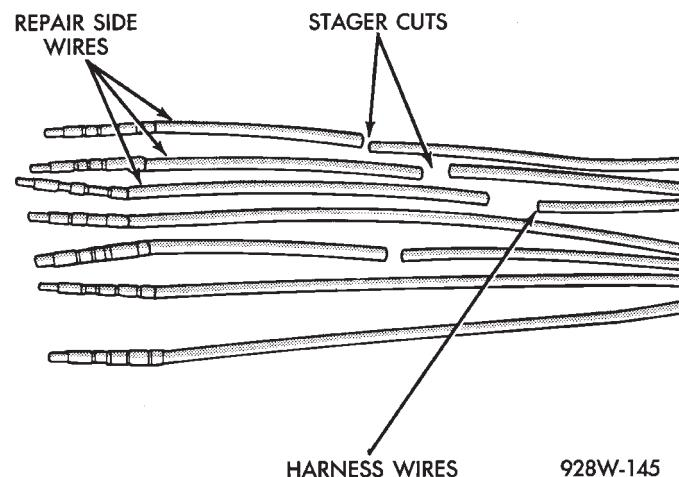

Fig. 13 Stagger Cutting Wires
- (1) Disconnect Battery.
- (2) Disconnect the connector being repaired from its mating half.
- (3) Cut off the existing wire connector directly behind the insulator and remove six inches of tape from the harness.
- (4) Stagger cut all wires on the harness side about 1/2 inch apart (Fig. 13).
(5) Remove 1 inch of insulation from each wire on the harness side.
(6) Stagger cut the matching wires on the repair connector assembly in the opposite order as was done on the harness side of the repair (allow extra length for soldered connections). Check that the overall length is the same as the original (Fig. 13).
(7) Remove 1 inch of insulation from each wire.
(8) Place a piece of heat shrink tubing over one of side of the wire. Make sure the tubing will be long enough to cover and seal the entire repair area.